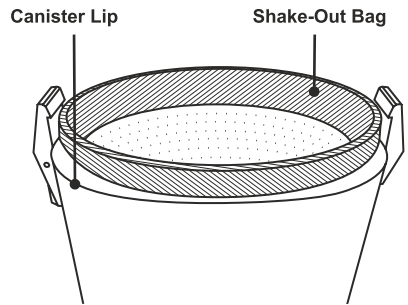

Fig 4
6. Ensure that the Shake-Out Bag is in place. (Fig.4)